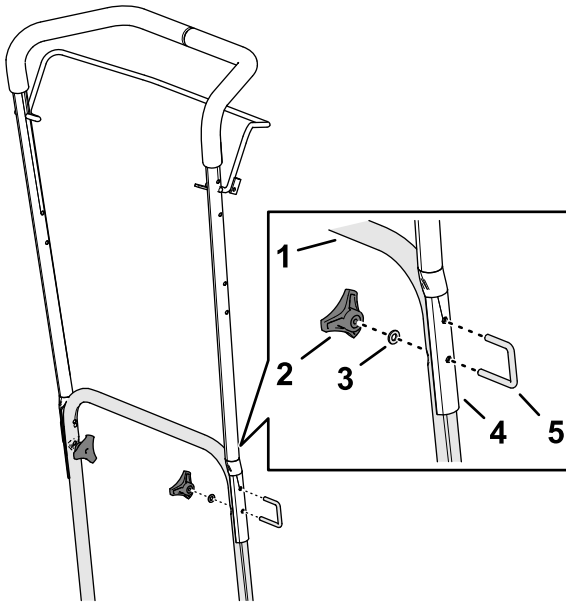

Figure 6
1. Align the holes on the upper handlebar with the holes in the lower handlebar (Figure 6).